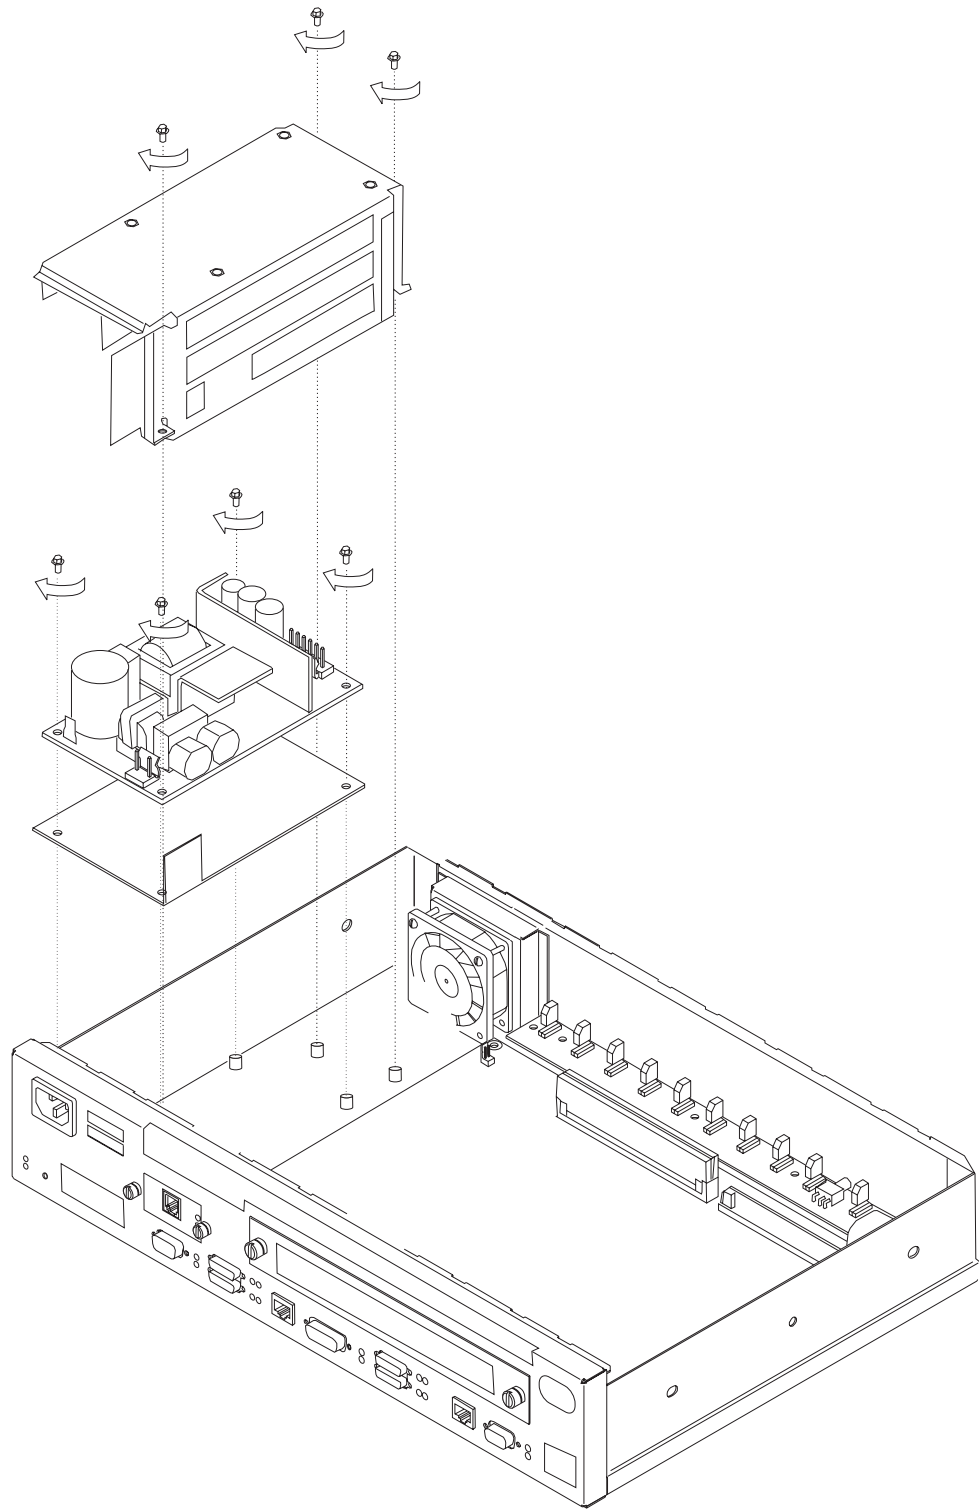

Figure 4-30. Replacing the Power Supply Cover
- 5** Replace the screws that attach the power supply cover to the chassis as shown in Figure 4-30 on page 4-26.